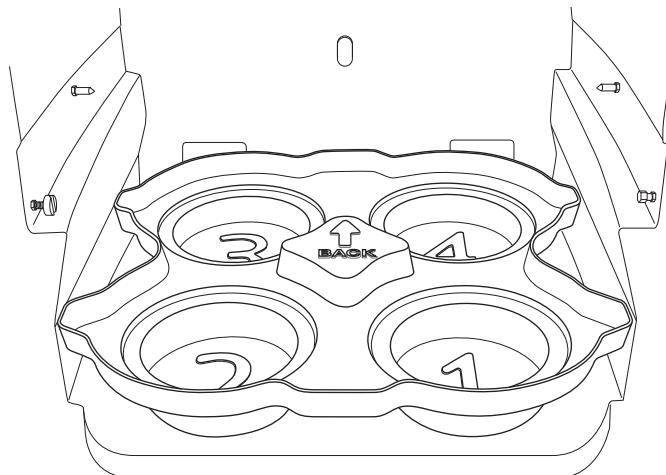

Figure 2-5 *Installing the standard locating base*
2. Slide the locating base into the bottom of the refrigerated compartment (Figure 2-5). Note that the arrow must be pointing toward the back of the refrigerator.
2. Slide the standard locating base into the bottom of the refrigerated compartment (Figure 2-5). The arrow must point toward the back of the refrigerator.